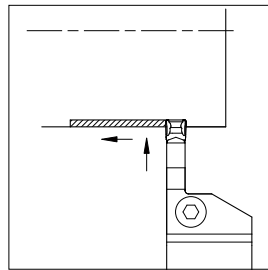

Fig. 2
4. Make sure that there is no gap between the insert and the back end of the toolholder's surface and that the insert is set straight (Ref. to Fig. 2 and 3).
2. Mate and fit the serrations of the blade and toolholder, and also fit the blade end to the toolholder. (Ref. to Fig. 2)
3. Tighten the blade fixing screws at an appropriate torque. You can tighten them in any order. (Ref. to Fig. 2)
2. Grooving depth under 0.5 mm: For finishing - refer to fig. 2